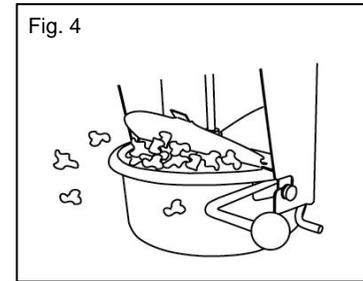

Fig. 4
- 13) Popcorn starts popping out through the lid after about 2 to 3 minutes. (Fig. 4)
- 16) Keep heater switch (3) OFF if the unit is not being continuously used.